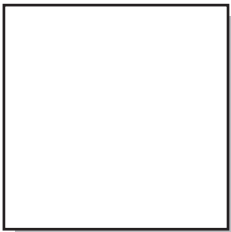
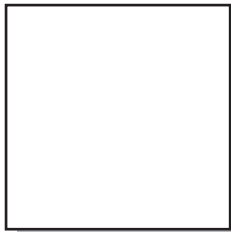

Fig.28
Fig.29
- The pressure hose is stored on the hose reel located above the accessories holder. With the front of the pressure washer facing towards you, insert the un-threaded end of the power hose into the square hole and begin turning the handle away from you (counterclockwise). (Fig.28) Pull the handle out horizontally with your right hand in order to unlock it. When the reel has gone about 1/4 turn with the fitting inserted into the square hole, place the hose under the indentation on the side of the reel to keep it in place while winding it up.(Fig.29)